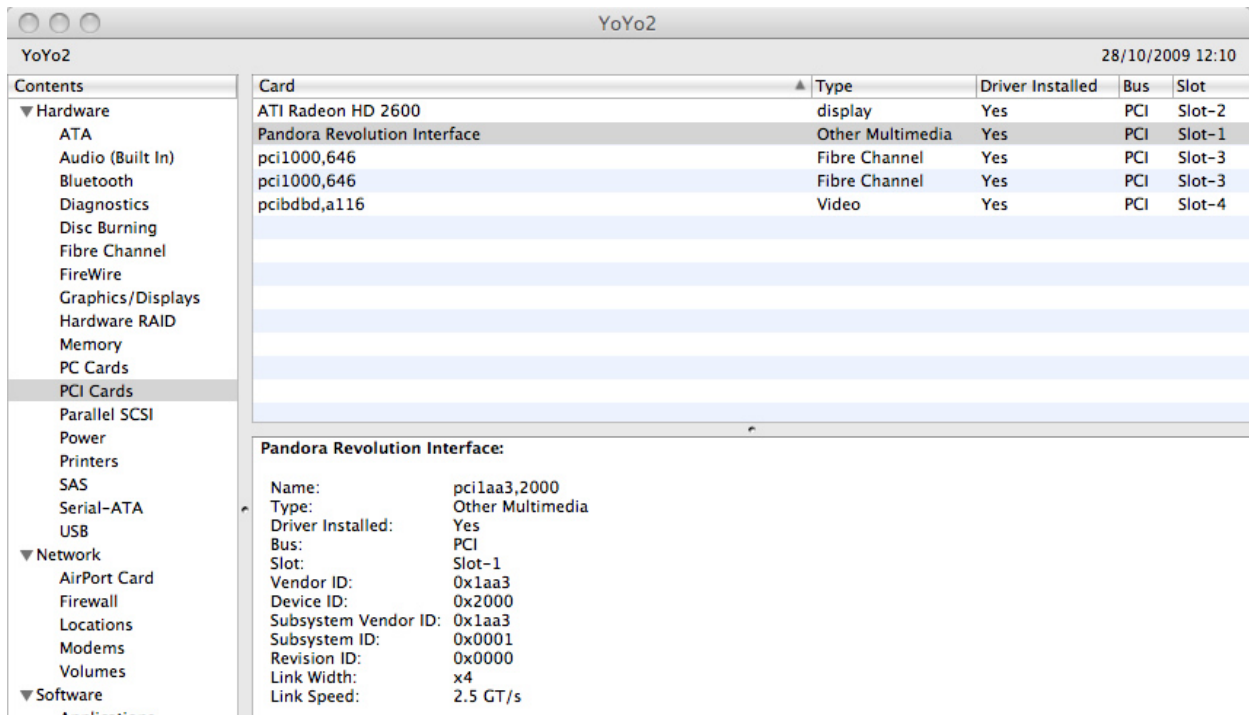

Figure 10.8 MacOS Hardware profiler
- As shown in figure 10.8, The **Pandora Revolution Interface** should be present in the list of PCI devices.